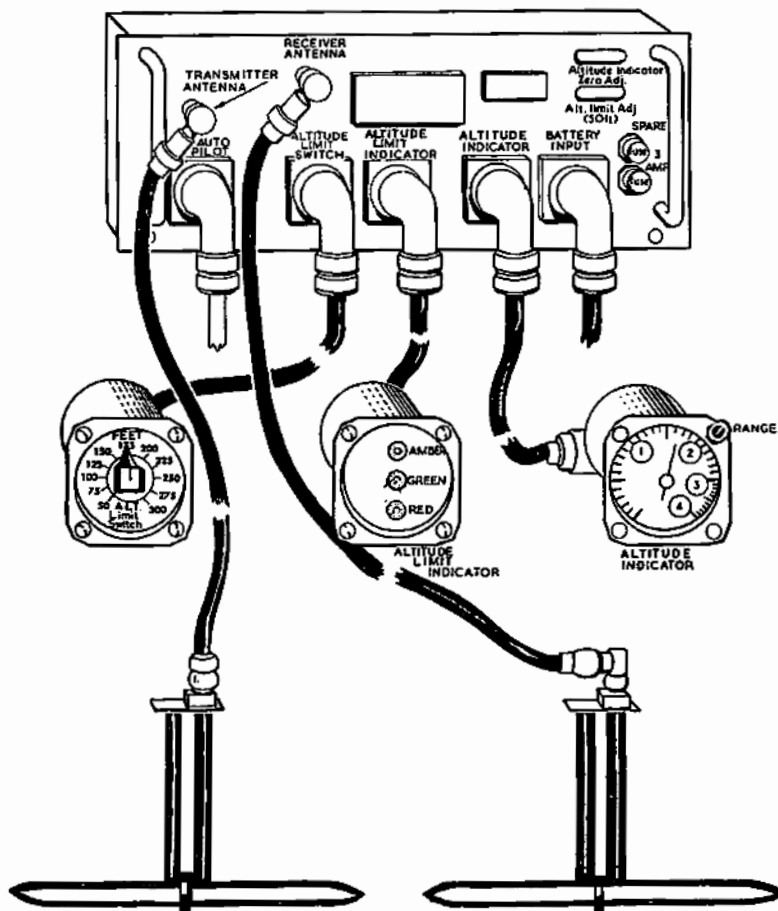

Fig. 1. A.Y.F. Equipment Layout.
The transmitted wave is reflected from the earth's surface to the receiver. The A.Y.F. determines height by measuring the *frequency difference* between the transmitted and received waves. Height is shown by a pointer indication against a background scale calibrated for two ranges: a low range of 0 to 400 feet and a high range of 0 to 4,000 feet. In addition to the altitude indicator some A.Y.F. altimeters have an auxiliary device known as an altitude limit indicator (Fig. 1), designed to relieve the pilot of constantly having to watch the altitude indicator scale. The limit indicator consists of three coloured lamps,
(d) Select altitude limit switch (Fig. 1) setting for desired height.
(c) When preparing to land, set the range switch (Fig. 1) to "LOW". If the altimeter is correctly calibrated the pointer should indicate approximately zero at the instant of touch-down. A higher indication may be due to false reflections from nearby objects.
14. **Unserviceability in the Air.** If the equipment becomes unserviceable during flight, little can be done to remedy the defect except a fuse check. The fuse is located at the bottom right-hand corner of the front panel of the transmitter/receiver (Fig. 1), with a spare fuse nearby.